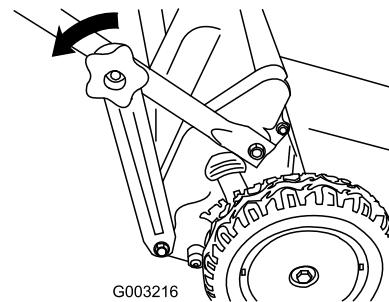

Figure 17
1. Remove the lower handle knobs that attach the handle brackets to the lower handle ends (Figure 17).